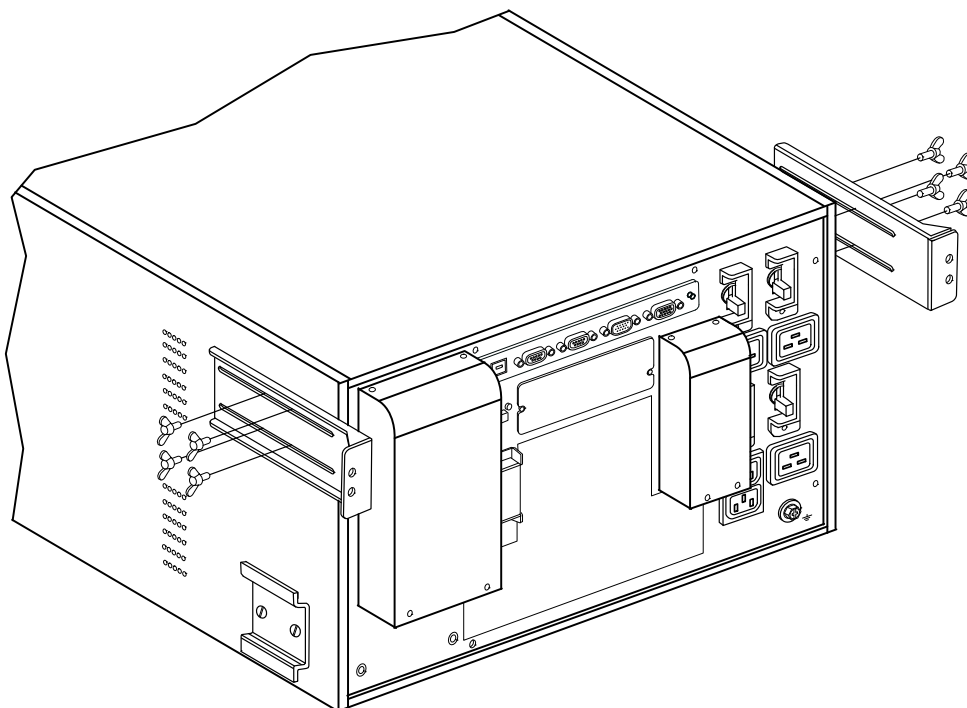

Figure 22. Installing the Optional UPS Seismic Mounting Brackets
16. If installing the optional seismic mounting brackets, align the two UPS seismic mounting brackets with the screw holes on the sides of the UPS above the rear mounting brackets. Loosely secure the brackets with the eight supplied wing bolts. See Figure 22.